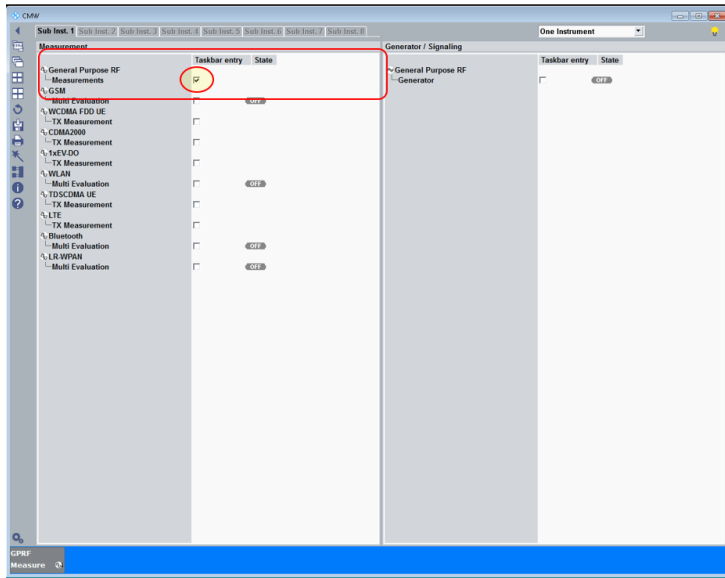

Fig. 3-15: Configuring the general purpose RF measurement mode
- Switch on the General Purpose RF measurement mode on the CMW100 as shown in Fig. 3-15